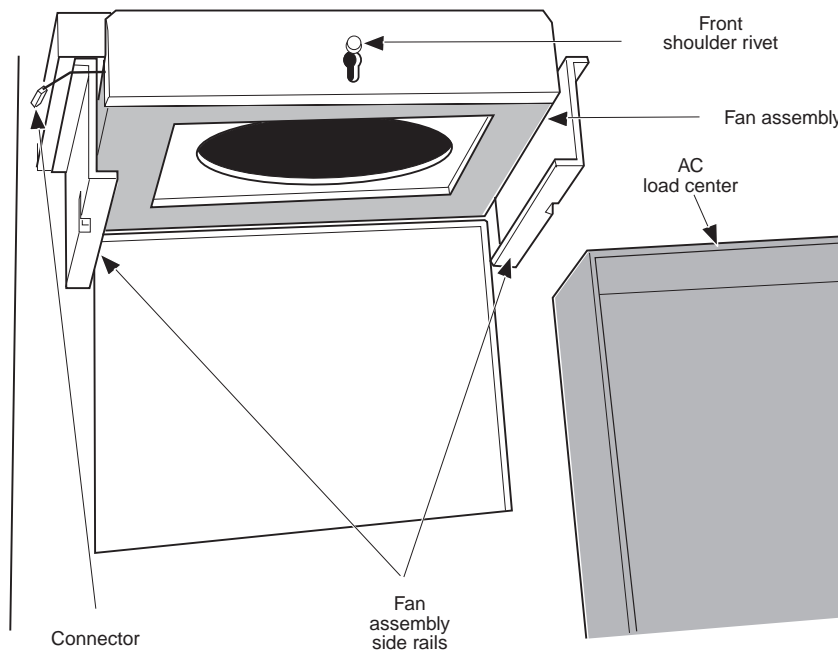

Figure 51. Top Fan Assembly
- 1 Disconnect the top fan power connector as shown in Figure 51.
- 1 Remove one fan mounting bolt. The heat exchanger should be removed and hang on the end chamber door as shown in Figure 51 on page 64.
- 6 Connect the bottom fan power connector as shown in Figure 51 on page 64.